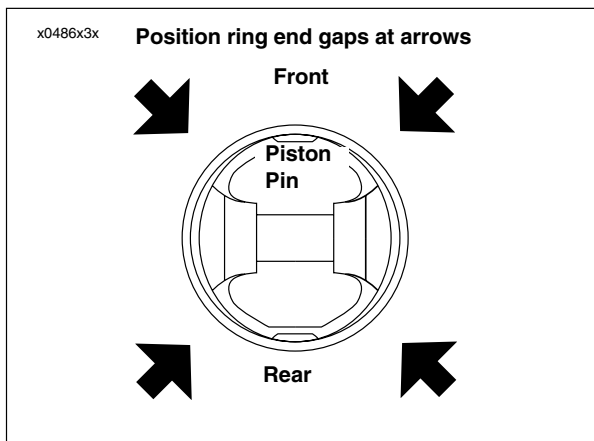

Figure 3-94. Ring End Gap Position
3. See Figure 3-94. Install rings so end gaps of adjacent rings are a minimum of 90° apart. Ring gaps are not to be within 10° of the thrust face centerline.